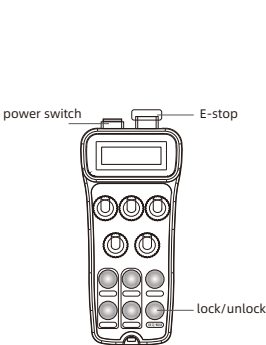

Figure 2 (General function operation keys)
2. Turn on the power switch of the transmitter (See Figure 2).